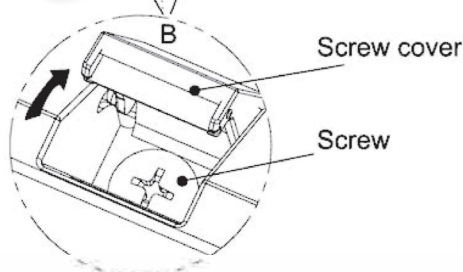

Fig. C.7.3
3) In the B position, open the screw covers as shown in Fig. C.7.3 and remove the screws. (Note: For some models, you need to remove 3 screws.)